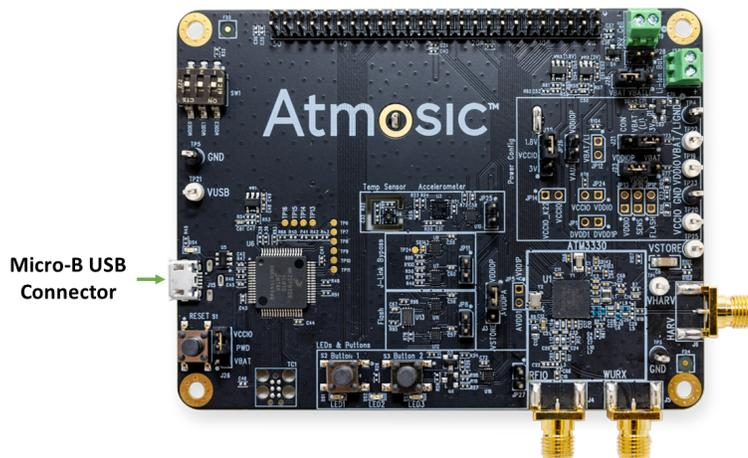

Figure 7 - ATM33/e Evaluation Board
- Figure 7 - ATM33/e Evaluation Board
- 1) Connect the USB cable to the USB Connector on the ATM3330e/ATM3330/ATM3325/ATM3430e/ATM3425/ATM3405 Evaluation Board, see Figure 7 as an example for ATM33/e. Confirm JLink CDC UART Port and J-Link driver are showing in the Windows device manager.